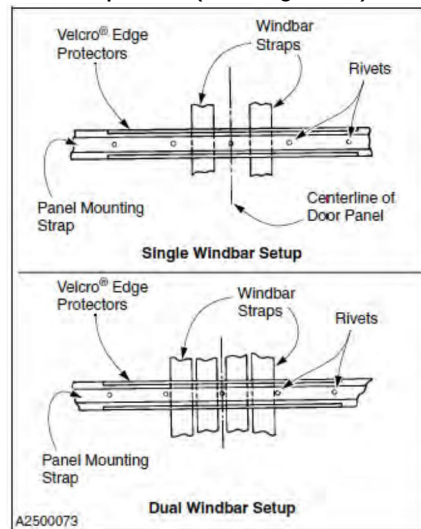

Figure 1
- 3.) Mark the mid-point of the drum on the panel. (See Figure 1)
- 4.) Remove the center rivets around the area where the windbar straps will be installed. (See Figure 1)
- 5.) Install the Velcro on the top and bottom of the panel mounting strap. Center it so that there is approximately 3 feet of Velcro on each side of the mid-point on the drum. (See Figure 1)
- 7.) Center the windbar strap on the panel mounting strap. (See Figure 1)
- 3.) Center the windbar strap on the panel mounting strap (See Figure 1)
Follow the same steps for Front and Rear windbar installations, but route both sets of straps at the same time. (See Figure 1)